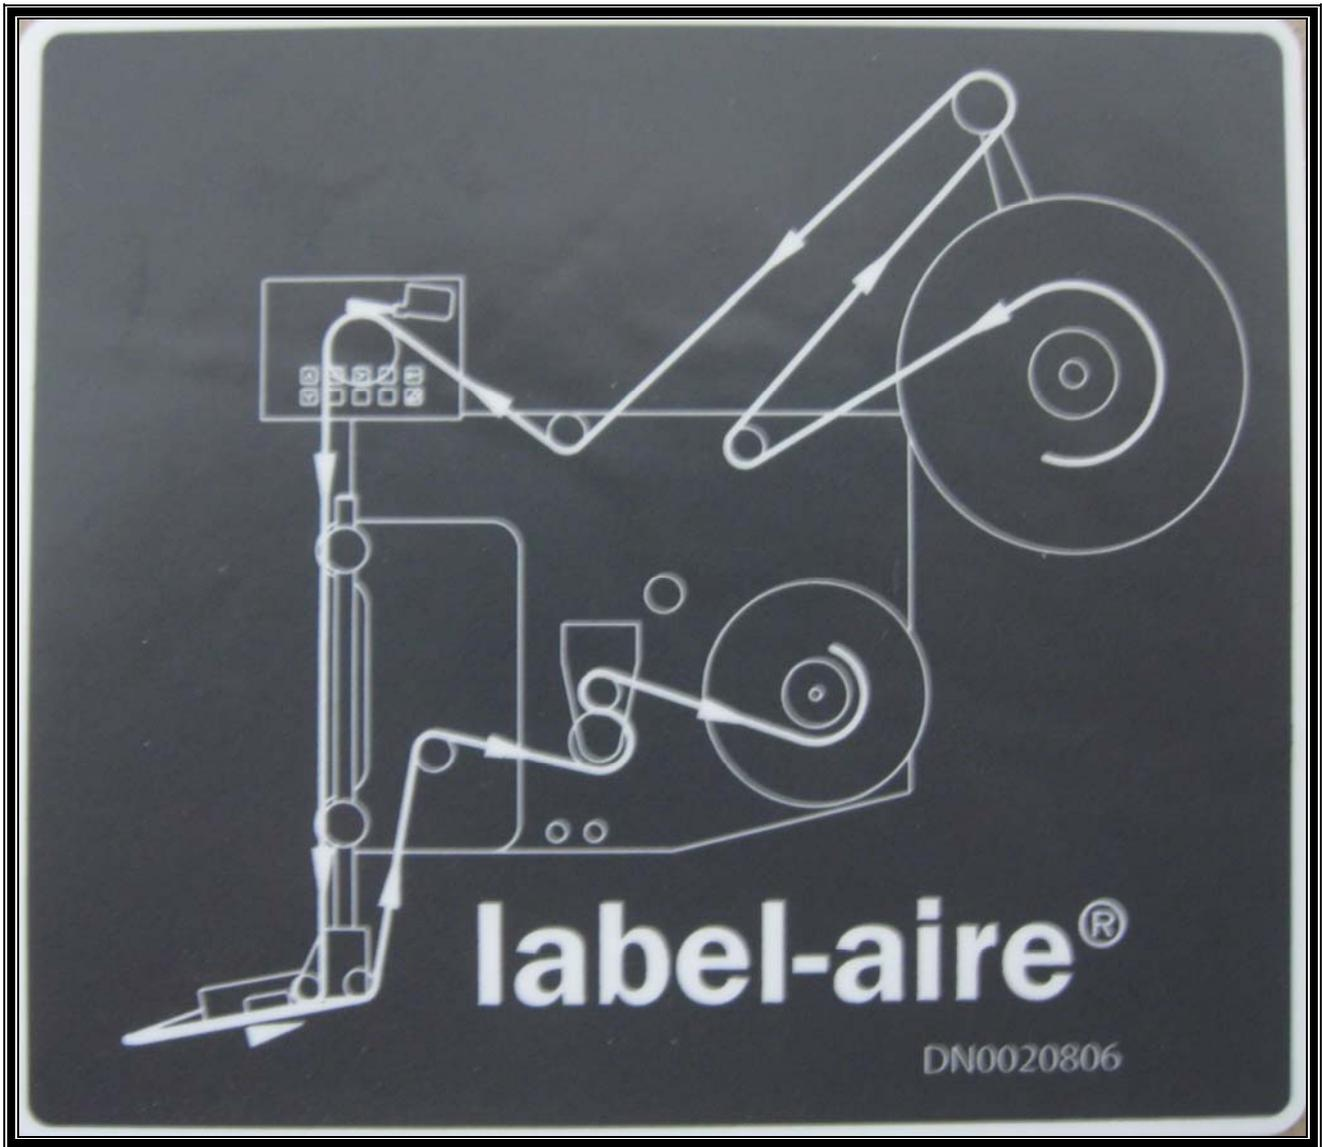
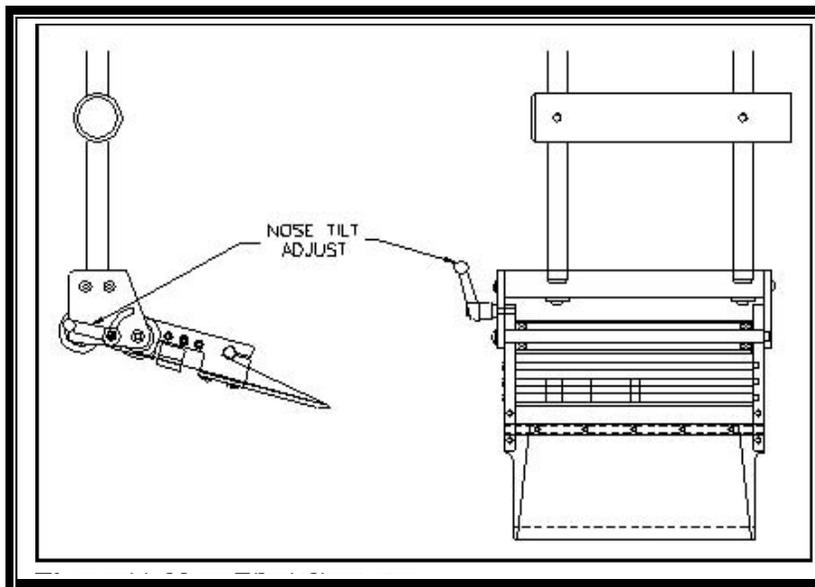

Figure 9 Threading Diagram (Left Hand)
Figure 10 -Nose Tilt Adjustment
1. Place the machine OFFLINE. Remove the outer unwind disk (see Figure 9 or Figure 10).
6. Thread the web through the machine as shown in Figure 9 or Figure 10. Make sure to thread the label liner through the label sensor.
12. Press and hold the (Custom) button, after two labels feed out, let go of the custom button and (3) labels will feed out and the labels should be calibrated.
**for parts & service call QLC (800) 837-1309**